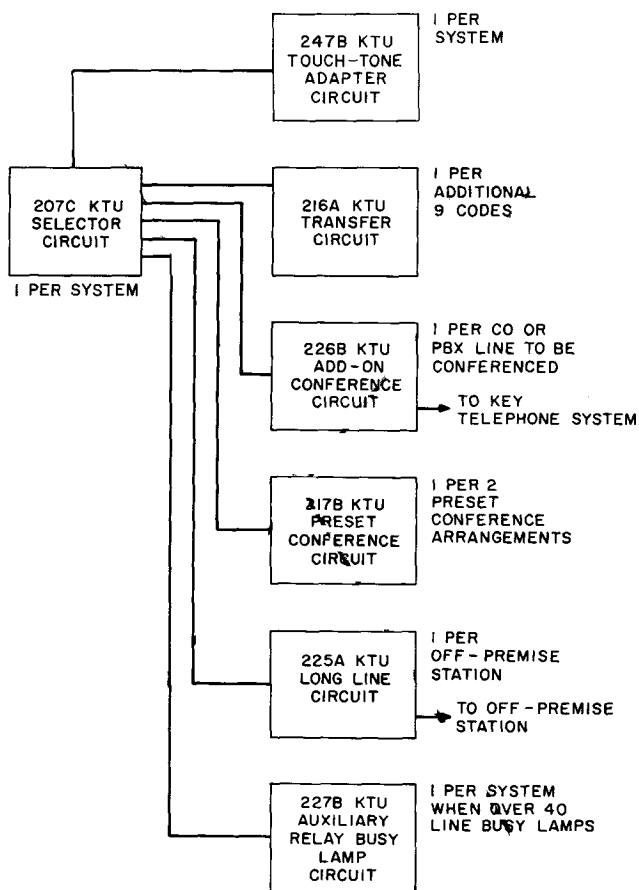

Fig. 1—Selector-Only Arrangement
2.03 The selector only arrangement (Fig. 1) provides for: